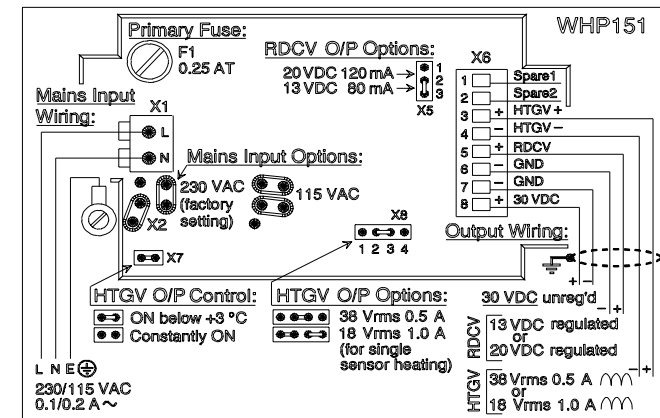

Figure 2. WHP151 wiring instructions
- 4 Check that the X2 jumper selection corresponds to the local mains voltage level. If not, make proper reselection. Refer to Figure 2 or the instruction label on the unit's cover.
- 7 Do the output wiring to the removable screw terminal block X6. Check for correct jumper settings at X5, X7 and X8 (refer to the instruction label or Figure 2).